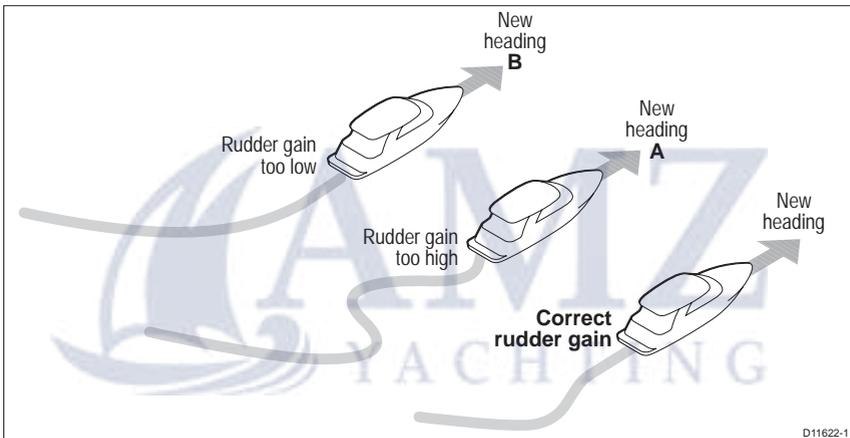

Figure 3-3: The affect of different rudder gain values
- If the course change causes a distinct overshoot (more than 5°) and/or there is a distinct 'S' in the course (as at **A** in *Figure 3-3*), the rudder gain is too high.
- If the boat's performance is sluggish and it takes a long time to make the 40° turn, with no overshoot (as at **B** in *Figure 3-3*), the rudder gain is too low.